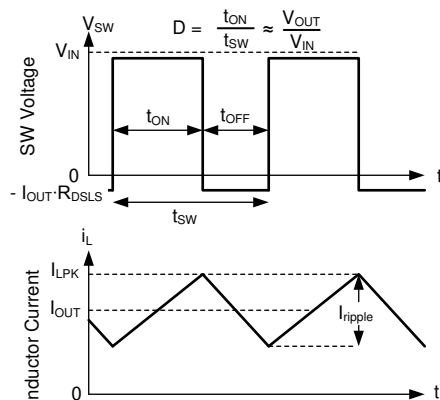

Figure 7-10. SW Voltage and Inductor Current Waveforms in Continuous Conduction Mode (CCM)
The following operating description of the LM656x5 refers to Section 7.2 and the waveforms in Figure 7-10. Both supply a regulated output voltage by turning on the internal high-side (HS) and low-side (LS) NMOS switches with varying duty cycle (D). During the HS switch on-time, the SW terminal voltage, V_{SW} , swings up to approximately V_{IN} , and the inductor current, i_L , increases with a linear slope. The HS switch is turned off by the control logic. During the HS switch off-time, t_{OFF} , the LS switch is turned on. Inductor current discharges through the LS switch, forcing V_{SW} to swing below ground by the voltage drop across the LS switch. The regulator loop adjusts the duty cycle to maintain a constant output voltage. D is defined by the on-time of the HS switch over the switching period: $D = T_{ON} / (T_{ON} + T_{OFF})$.